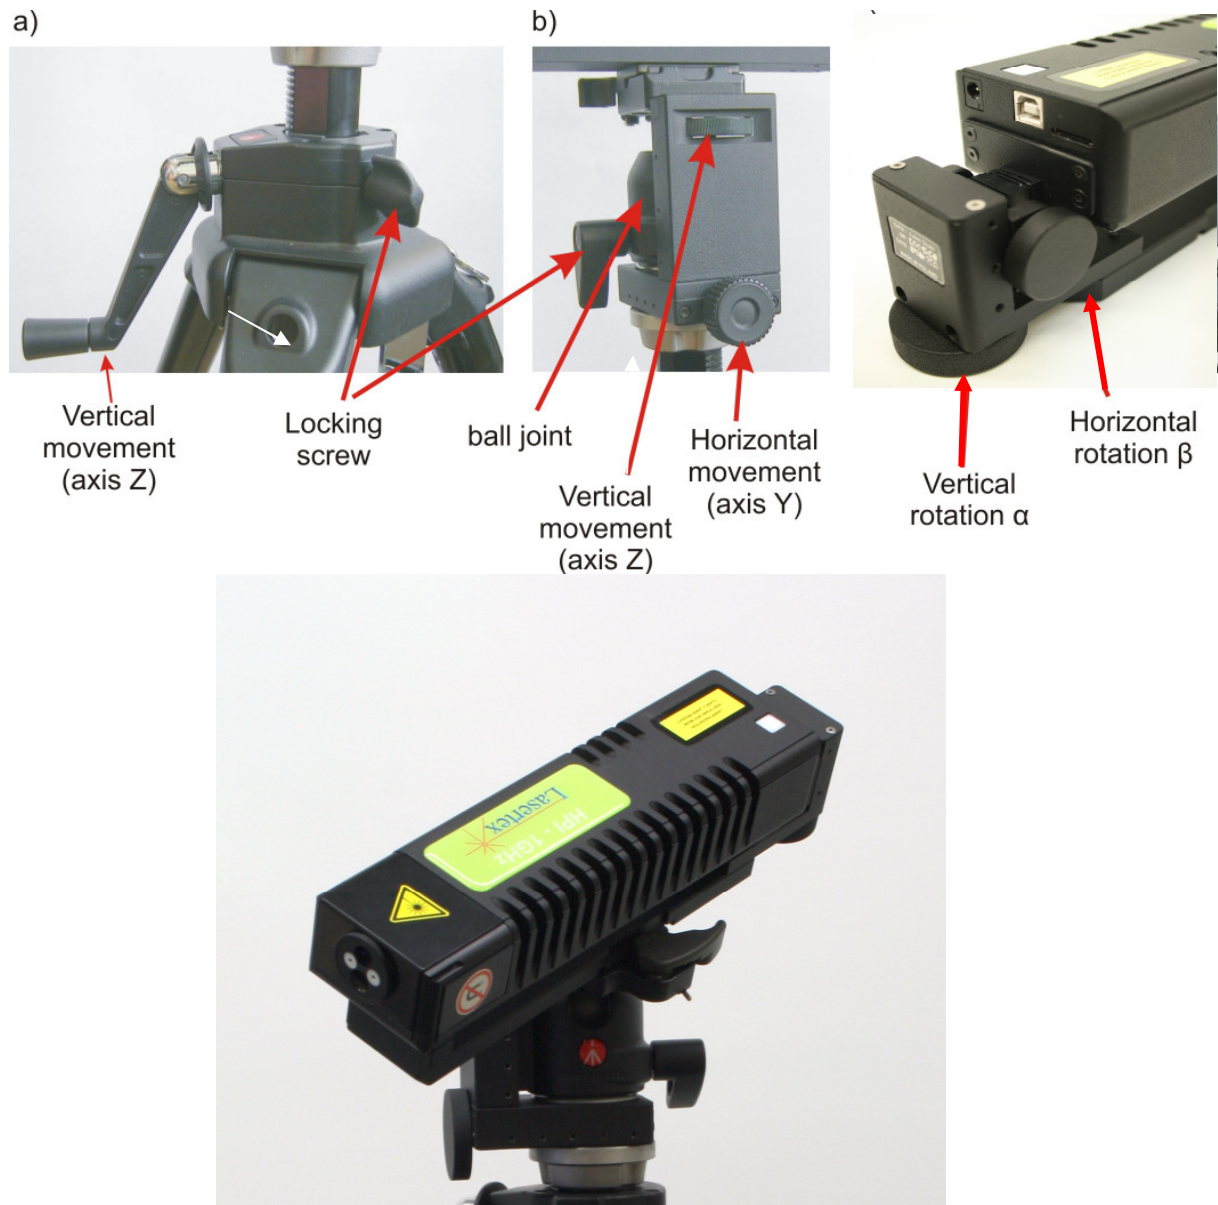

FIG.4.2. THE LASER HEAD ALIGNMENT ELEMENTS
8. Using regulating elements of the laser head (Fig. 4.2) find a position in which laser beam passes through both upper holes in the diaphragms placed on the interferometer and the retro-reflector. The spot position on the diaphragm of the interferometer (the interferometer is placed closer to the laser head) – should be regulated with X stage and up-down translation stage Z and up-down translation of the tripod. The spot position on the retro-reflector diaphragm (the retro-reflector is far from laser interferometer) – should be regulated with “ $\alpha$ ” angle alignment in vertical and “ $\beta$ ” angle alignment in horizontal line.